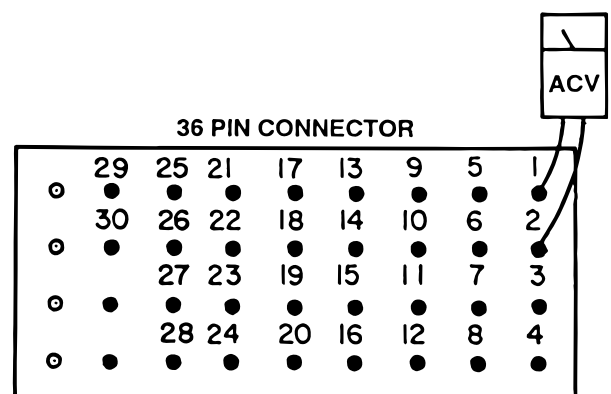

Figure 5-8. Back View Connector A
4. Use an AC voltmeter capable of measuring 120 VAC and measure the voltage between the indicated connector pins located in Connector A. See figure 5-8.